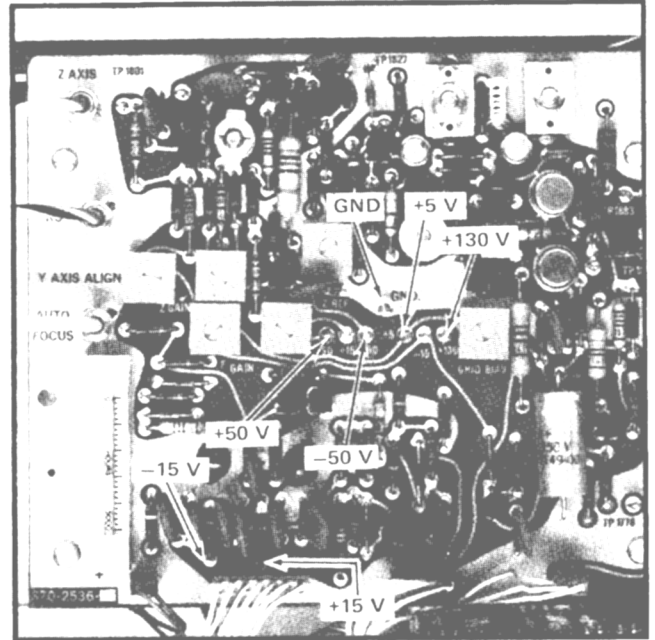

Fig. 2-2. Location of the Low Voltage Test Points
- a. Connect the precision DC voltmeter between TP -50 V and TP GND SENS on the Z-Axis circuit board (see Fig. 2-2).
Check—Table 2-1 lists the low voltage supplies and their tolerances. Check each supply with the precision DC voltmeter for voltage output within the given tolerance. Connect meter ground lead to GND (Pin 1) P1896. The low-voltage supplies may also be checked at locations as shown in Fig. 2-2.